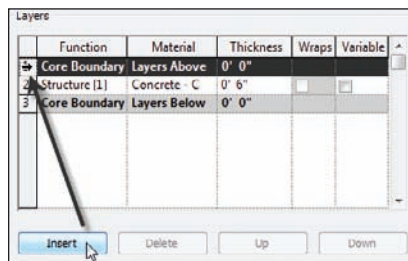

FIGURE 6.21 Inserting a new layer for the terrazzo
1. In the Layers field, you will see three rows. Each of the three rows has a corresponding number. Click on the number 1. This is the top row that reads Core Boundary Layers Above (see Figure 6.21).
2. Underneath the Layers field, you will see an Insert button, as shown in Figure 6.21. Click it.